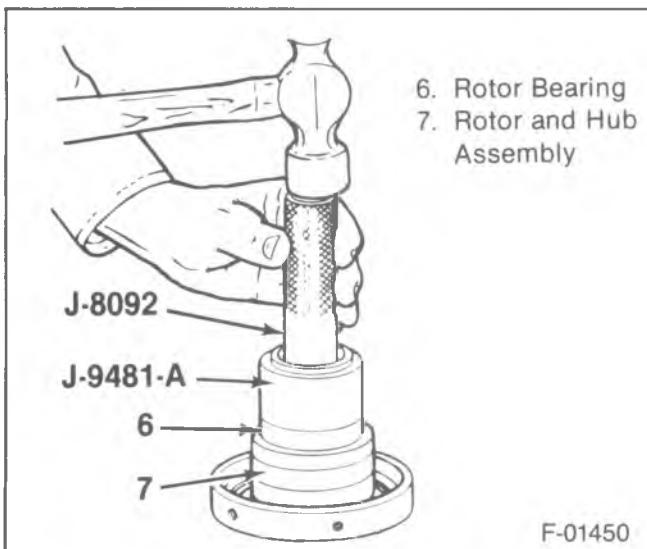

Figure 11—Installing the Clutch Rotor Bearing
1. Bearing (6) to the rotor hub with J-8092 and J-9481-A (figure 11).
**Install or Connect (Figure 11)**
1. Bearing to the rotor and hub assembly with J-8029 and J-9481-A (figure 11).
- Using a center punch with a 45 degree angle point, stake 1.1-1.4 mm (0.45-0.55 inch) deep in the places 120 degrees apart (figure 11).